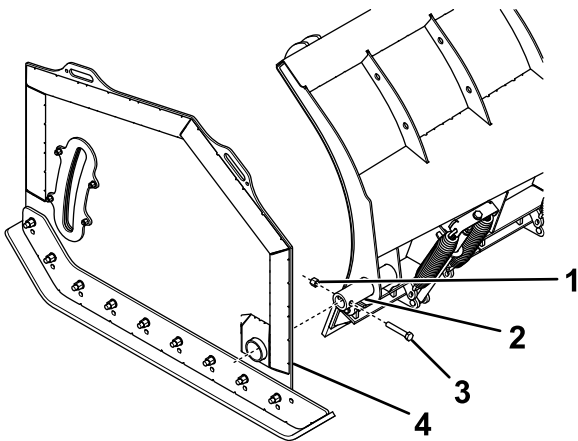

Figure 4
2. Apply grease to the pivot tubes on either side of the plow (Figure 4).
3. Slide the plow wings onto the pivot tubes and secure them with a bolt (3/4 inch) and locknut (Figure 4).